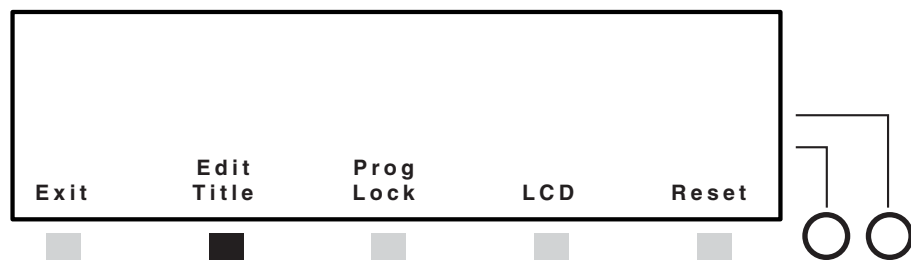

Figure 3-13 — Selecting the Edit Title button
- Press the Edit Title button (figure 3-13). The title box submenu is displayed and the title box appears on the program output.